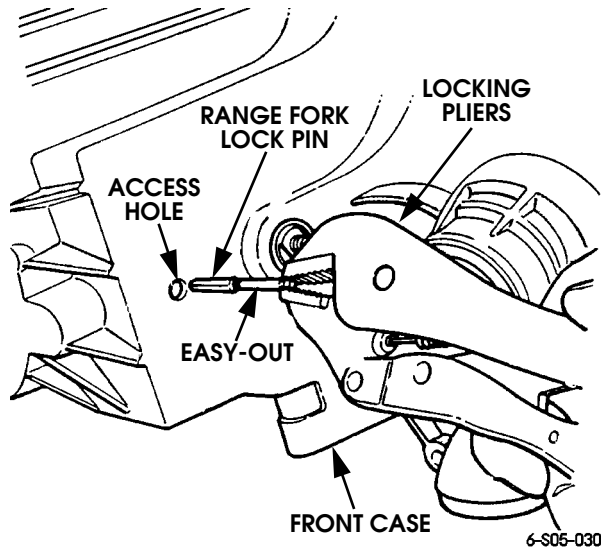

Figure 5-155: Installing Shift Rail Lock Pin
19. Install range fork lock pin. Start pin in bore with easy out as shown or with pencil magnet. Then seat pin with pin punch and hammer (Figure 5-155).